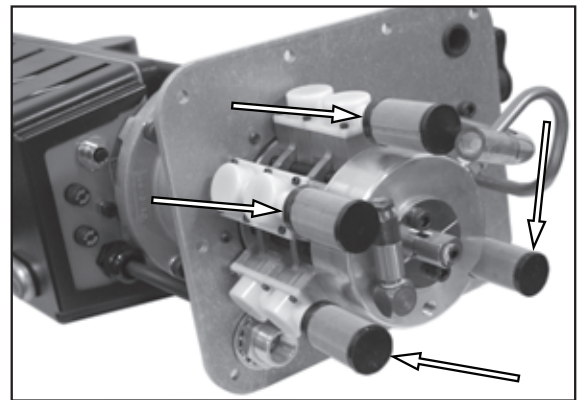

Figure 6.
12. See Figure 6. Replace the inlet suction filters.